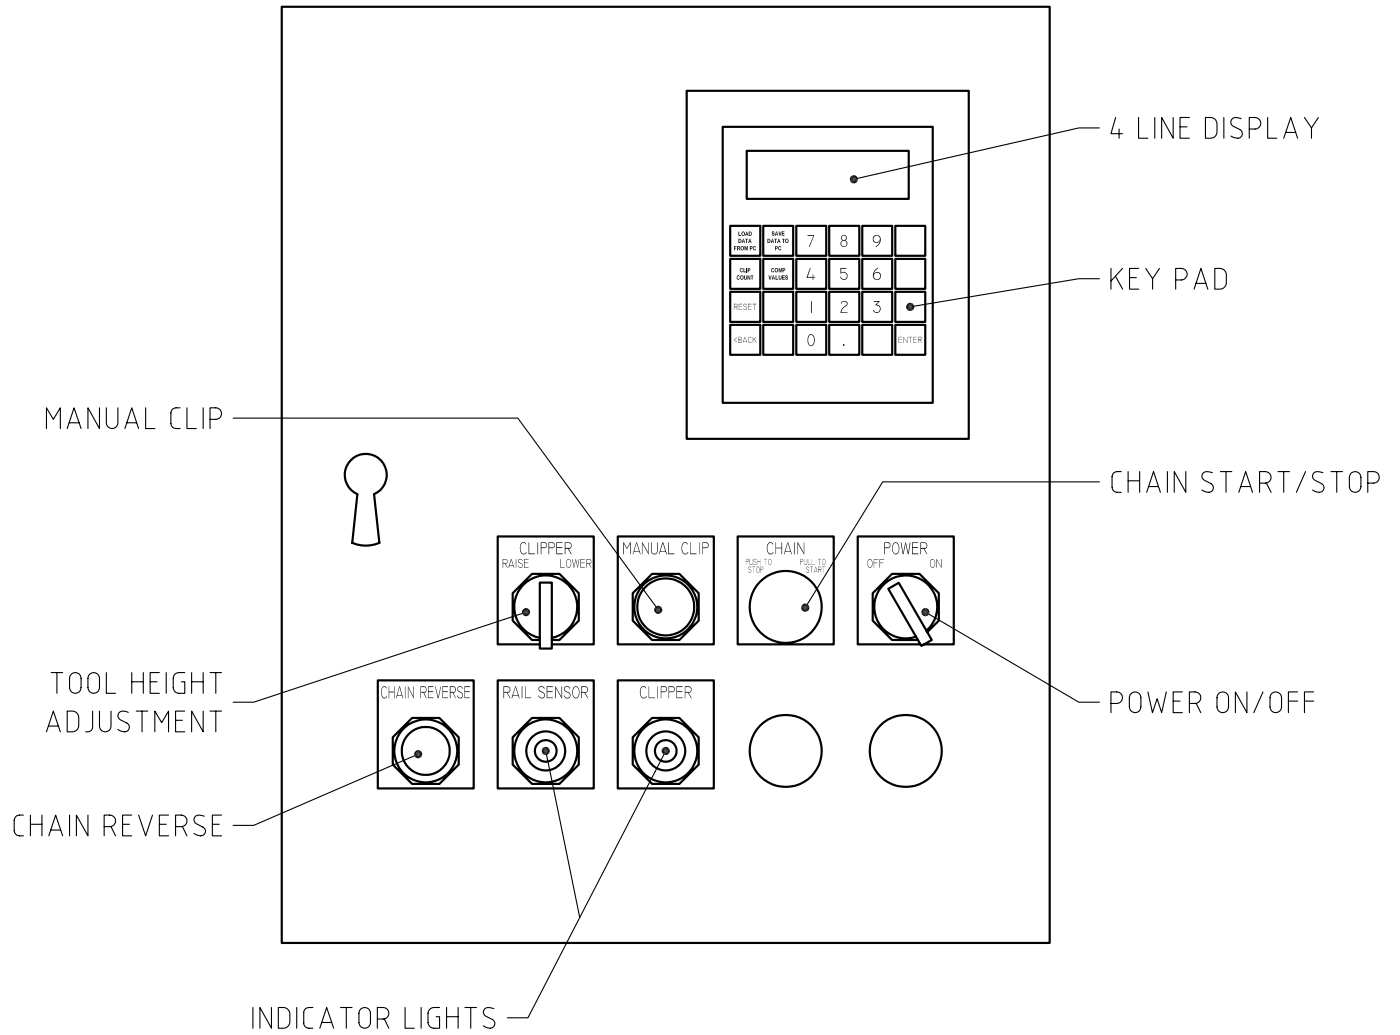

FIGURE 2.5
5. While depressing "MANUAL CLIP" pushbutton (Fig. 2.5), push clips into back of tool until clips contact driver blade. Release pushbutton.
1. Using "POWER" selector switch (Fig. 2.5), turn machine "ON".